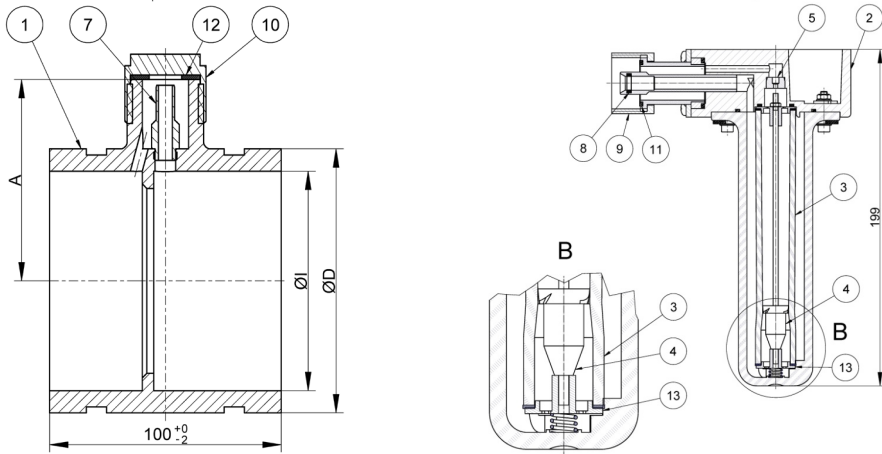

Fig. 9 Turbo-Lux® 3 orifice plate and bypass meter, Drawing and dimensions 2"/DN 50 - 4"/DN 100
The installation can be in any line routing - horizontal to vertical - place (fig. 6). However, it is important to ensure that the flow direction of the arrow marked on the device and corresponds to the differential pressure sampling tube (fig. 9/10, pos. 7) is in the horizontal position.
The bypass meter is only compatible with the delivered orifice plate. Please make sure that the serial number of the orifice plate and the bypass meter are similar before installation. Before loosening the cap (fig. 9/10, pos. 10), the pipeline must be emptied to prevent the escape of liquids. The meter is plugged and screwed with a nut (fig. 9, pos. 9).
It must always be mounted vertically so that the float (fig. 9, pos. 4) can move freely in the tube. About foreign bodies that have come behind the filter must be removed (see 7.2). The tightening of the nut or the cap should be done by hand as possible. The threads must - for example be slippery - by fat. To avoid air strikes, the tube should be slowly filled with water.
The orifice plate flowmeter Turbo-Lux® 3 consists of an orifice plate (fig. 9/10, pos. 1) for stationary installation and a portable bypass meter (fig. 9, pos. 2). The bypass meter contains a conical glass tube (fig. 9, pos. 3) with float (fig. 9, pos. 4). The water flows vertically from top to bottom through the flow tube at the upper end of a side panel (fig. 9, pos. 5) is arranged. A filter (fig. 9, pos. 13) at the inlet largely prevents the ingress of foreign bodies. Inlet and outlet port for the bypass to be measured are arranged concentrically, so that an easy to combine with the stationary primary element.
When the bypass meter is commissioned or set into operation, bubbles of air will initially accumulate at the top part, which must be removed. For this purpose, the union nut (fig. 9, pos. 9) must be somewhat loosened during operation and the device must be rotated by 360°, so that the air bubbles can escape. Then the bypass meter has to be positioned vertically and the union nut has to be tightened once again.
If the filter is blocked by deposits (fig. 9, pos. 13) the flowmeter must be returned to the manufacturer to be cleaned and tested. Ensure that the O-ring (fig. 9, pos. 8) and the M 30 x 1.5 thread of the orifice plate are lubricated with grease.